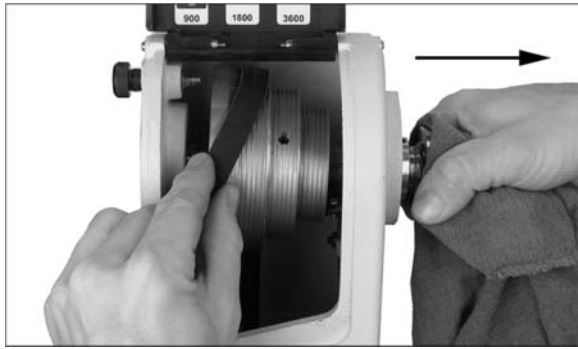

Figure 32
9. Continue pulling spindle toward tailstock until it clears left hole in headstock and offers enough room to remove belt (Figure 32).